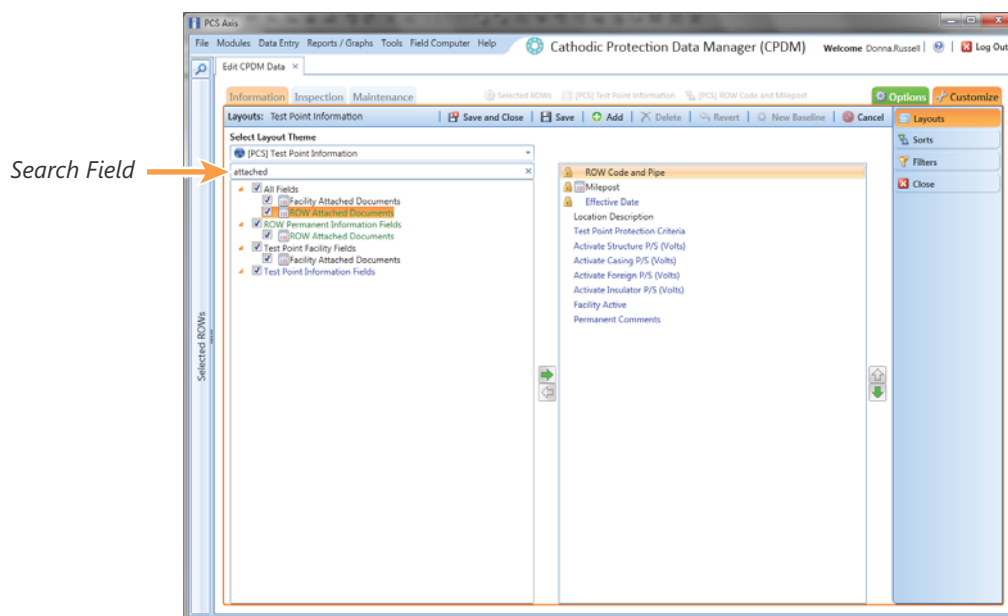

Figure 6-80. Layouts
- a Click the check box for the fields **Facility Attached Documents** and/or **ROW Attached Documents** in the left pane of the window (Figure 6-80, page 254).